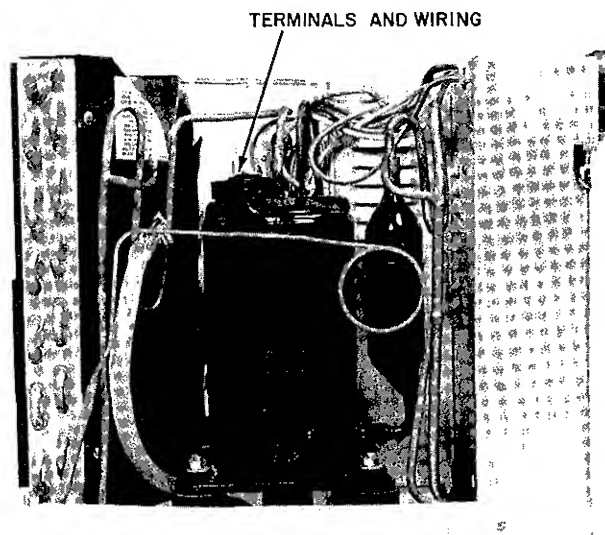

Fig. 22 — Compressor and Overload Protector Wires
- b Disconnect wires from compressor and overload protector terminals See Fig 22 Identify wires to ensure correct reassembly